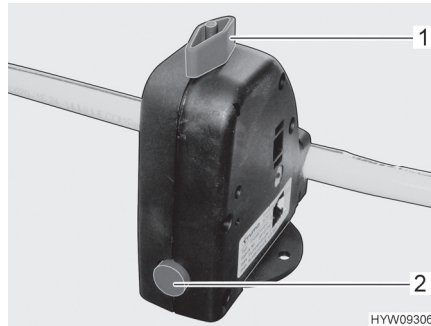

Fig. 189 Safety/drainage valve (Truma)
- Close the safety/drainage valve (Truma). Turn the knob (Fig. 189,1) perpendicular to the safety/drainage valve and push the push button (Fig. 189,2) in.